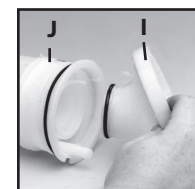

Figure 7
8. The pump housing (I) is separated from the pressure cylinder (J) by pulling it off. Figure 7. The O-ring can then be replaced.